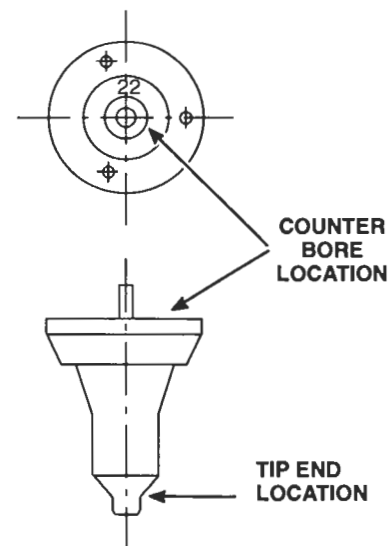

Figure 23. Spray Tip Classification
- b. The method of identifying Series 71 mechanical unit injector tips has been changed. A two-digit "generic code" number is stamped in the tip counterbore is now used in place of the last four digits of the part number (Figure 23.)